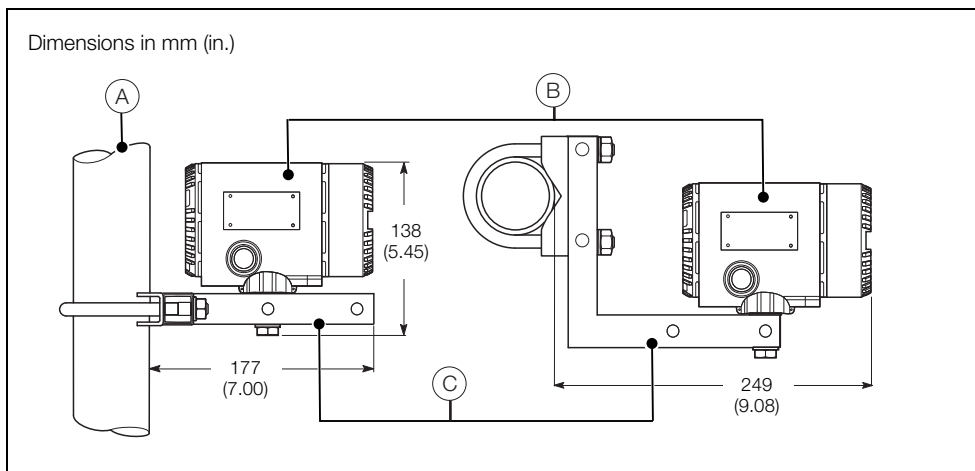

Fig. 3.5 Pipe Installation
Referring to Fig. 3.5:
1. Select a suitable pipe (A) (maximum 50 mm [2 in.]) as close as possible to the sensor.
2. Bolt the transmitter (B) to the pipe-mounting bracket (C) securely in the required position.
**Note.** The pipe-mounting bracket (C) supports variable installation positions. Two examples of the different options are shown in Fig. 3.5. The transmitter mounting bolt enables adjustable positioning (0° to 360°) of the transmitter housing.
3. Attach the pipe-mounting bracket (C) to the pipe securely using the U-bolt, nuts and washers (included).